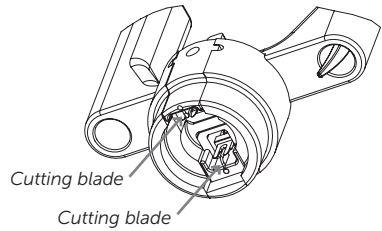

Figure 4.
2. Turn over the o-ring removal tool and locate the two cutting blades that are to be replaced (see Figure 4).